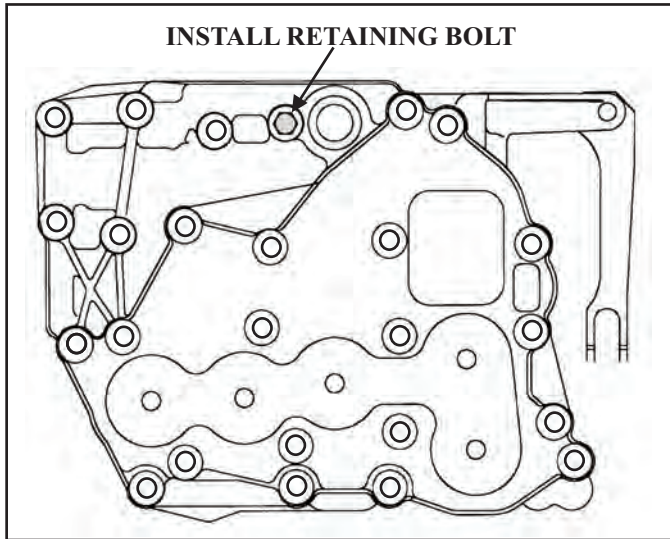

Figure 186
23. Install finger tight the one holding bolt as shown in Figure 186.